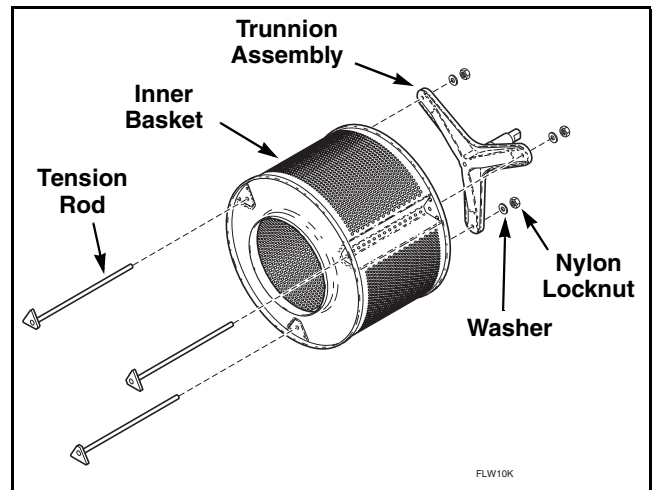
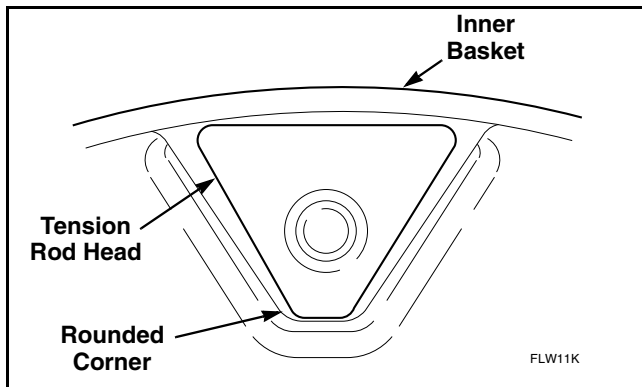

Figure 22
Figure 23
- Remove nuts, washers and tension rods holding trunnion to inner basket. Refer to *Figure 22*.
- Insert tension rods into inner basket. Refer to *Figure 22*. Position each rod so the rounded corner of triangular head faces the center of inner basket. Refer to *Figure 23*.